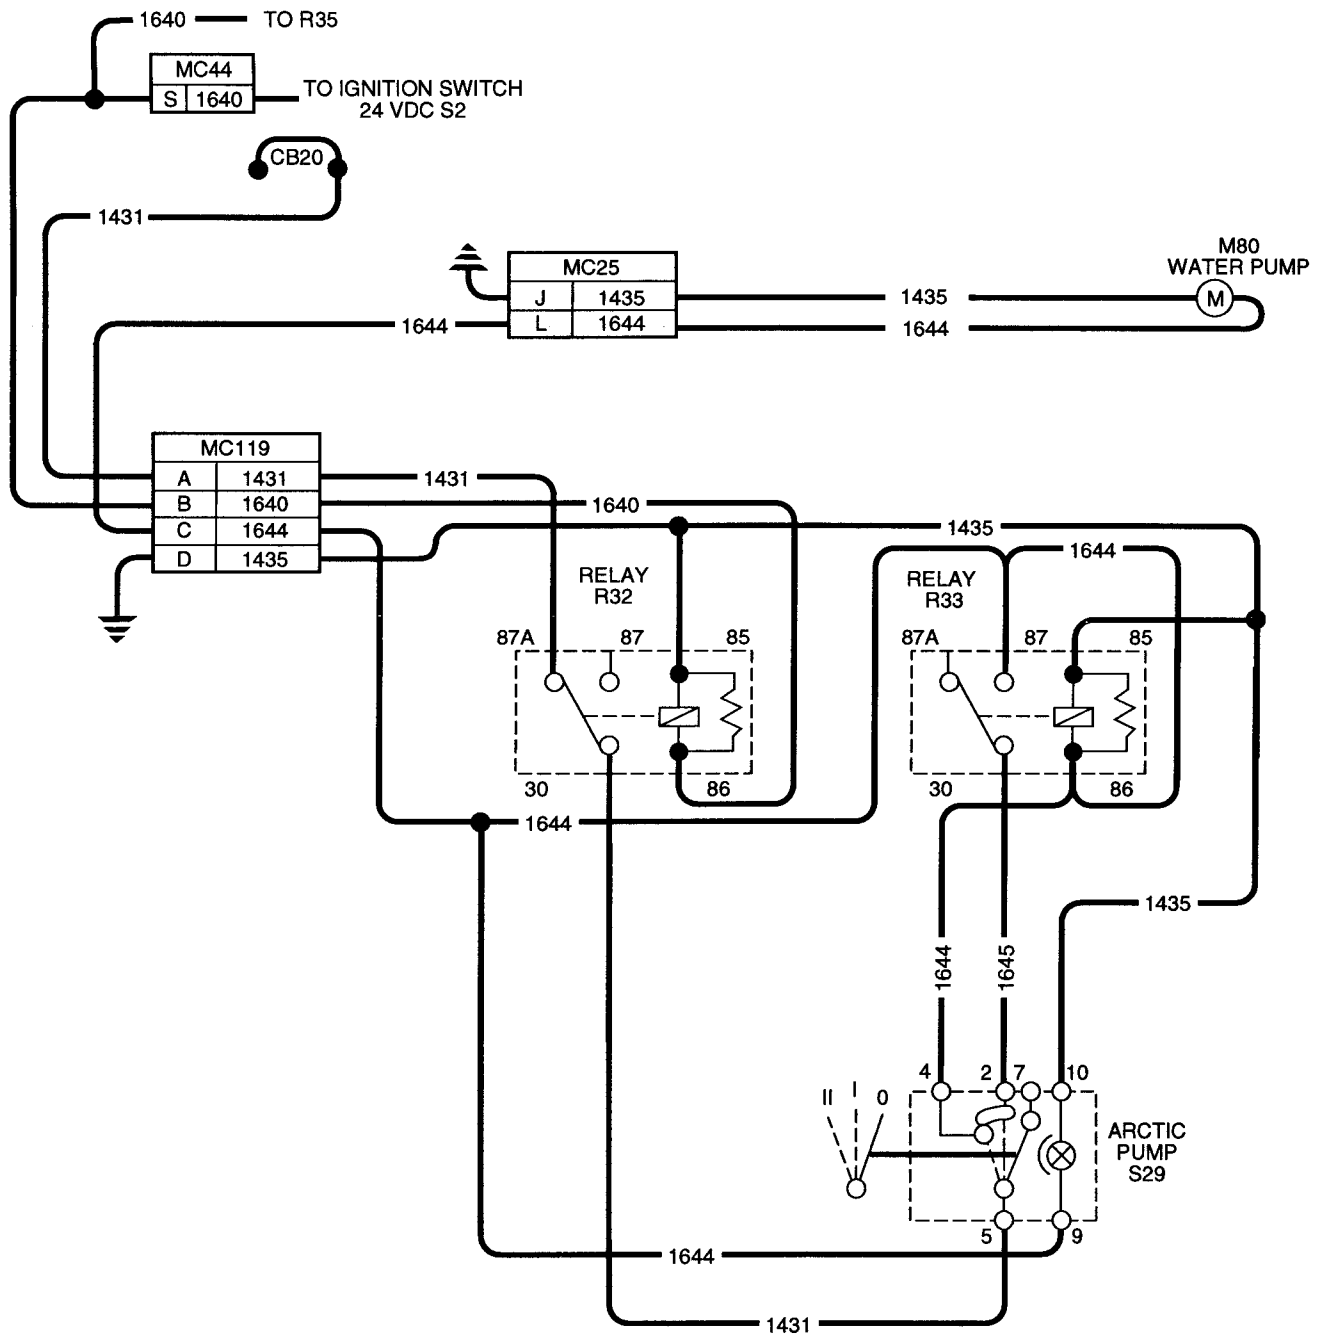

Figure 2-74. Arctic Kit Water Pump Electrical Schematic
This paragraph covers Arctic Kit Water Pump Troubleshooting. The Arctic Kit Water Pump System Fault Index, Table 2-64, lists faults for the arctic kit water pump of the PLS truck. Refer to schematic Figure 2-74 when performing tests and corrective actions.
- (1) Set multimeter select switch to ohms.
- (2) Is there continuity between wire 1435 and a known good ground?
- (a) If there is no continuity, repair wire 1435 (see schematic Fig 2-74) or notify DS Maintenance.
(a)	If 22 to 28 vdc are not present, repair wire 1431 (see schematic Fig 2-74) or notify DS Maintenance.
- (2) Disconnect arctic heater switch.
- (3) Is there continuity between relay R32, terminal 30 to arctic heater switch harness connector, terminal 5?
- (a) If there is no continuity, repair wire 1431 (see schematic Fig 2-74) or notify DS Maintenance.
- (4) Install relay R32 in terminal.